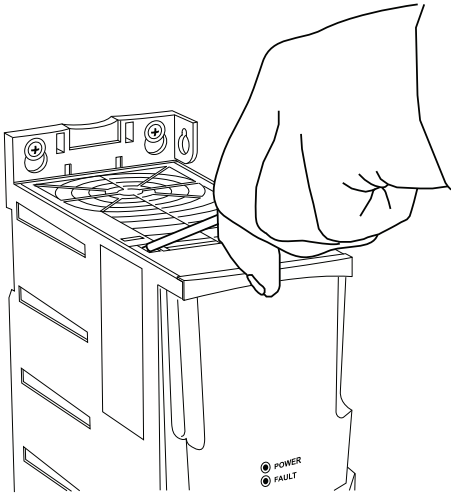

Fig. 45 — Remove Top Cover on ACS320 VFD
2. Insert a small straight blade screwdriver into the slot and press in to release the top cover as shown in Fig. 45.